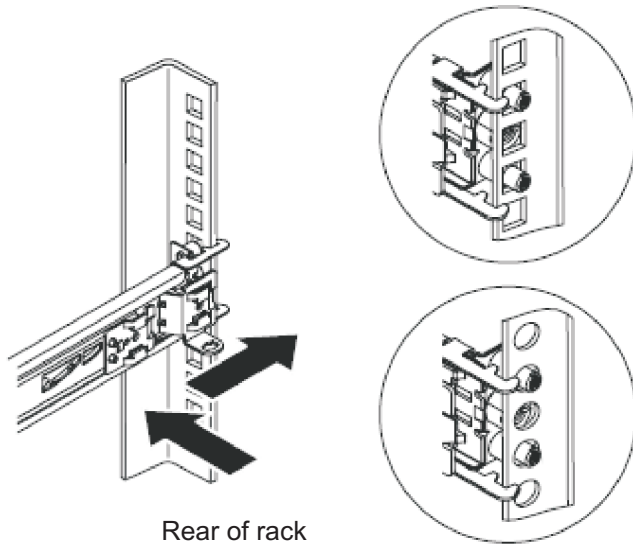

Figure 49. Installing the rear end of the slide rails
3. Install the rear end of the slide rails, as shown in Figure 49 on page 68.